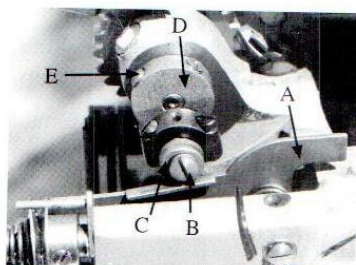

Fig. 18
The automatic thread tension lever(A, Fig. 18) should now begin to part the tension discs. This adjustment is made by manually depressing the lever(A) until its projection begins to part the discs, loosening screw(B), and moving the eccentric sleeve(C) to maintain the lever (A) in
It may be necessary to increase or decrease the size of the needle thread loop for various sizes of thread. This adjustment is made by advancing needle drive crank (D, Fig. 18) slightly for larger loop, retarding slightly for smaller loop. Loosen set screws (E) to make this adjustment.